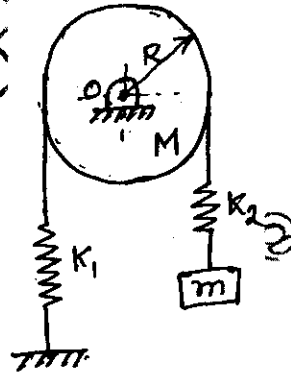

Fig.Q.6(b)
- b. Determine the natural frequencies of the spring mass pulley system as shown in the Fig.Q.6(b). The cord is inextensible and there is no slippage between the cord and the pulley. Take $K_1 = 40\text{N/m}$, $K_2 = 60\text{N/m}$, $m = 2\text{kg}$ and $M = 10\text{kg}$. (12 Marks)